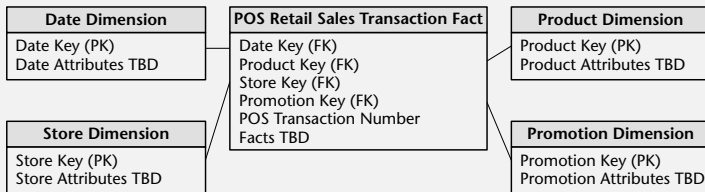

Figure 10: Preliminary retail sales schema.
- We now have a preliminary schema as illustrated in Figure 10.